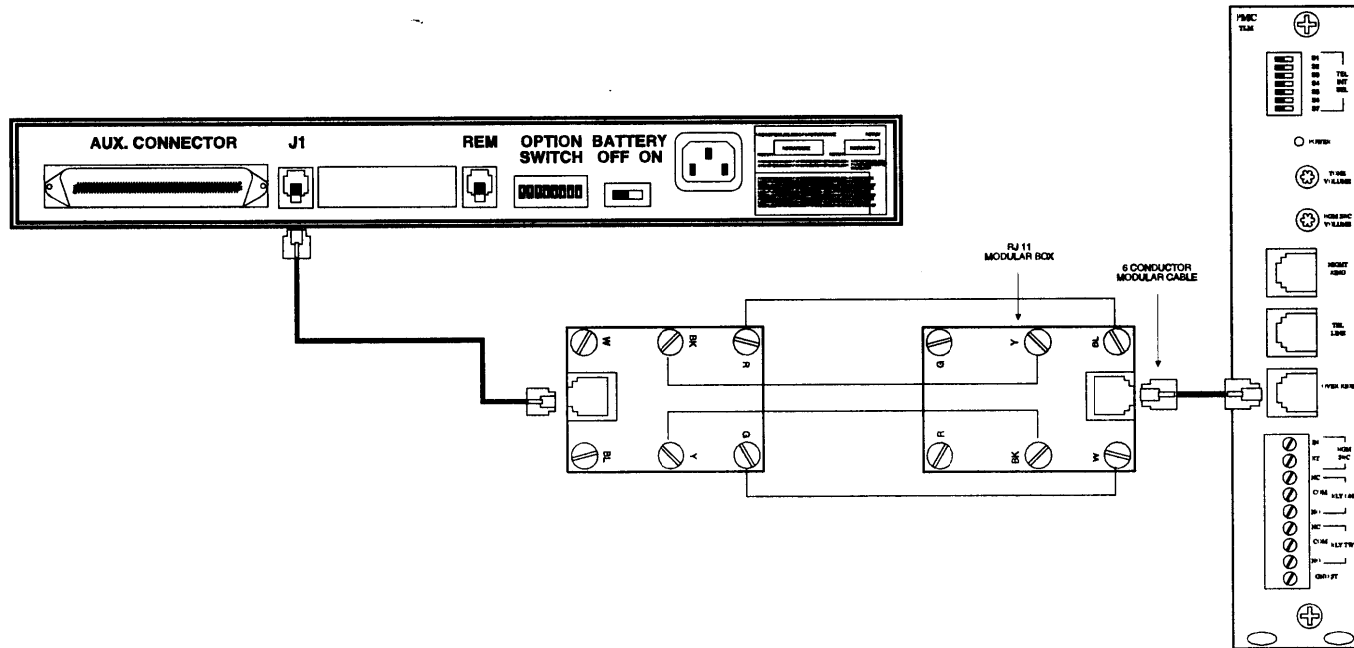

Figure A-6: Connection to the Multiple Digital Message Unit
- \* To Multiple Digital Message Unit (see Figure A-6 on page 57)